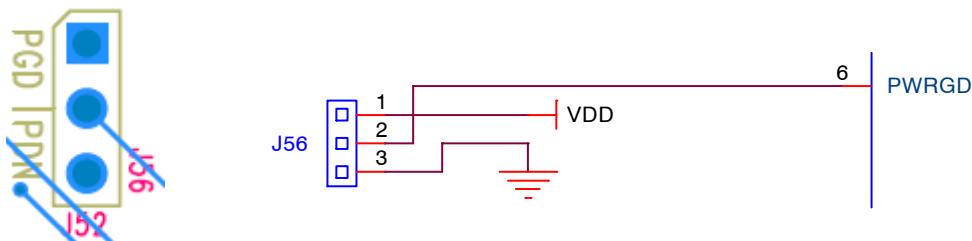

Figure 8. PWRGD/PWRDN# Pin Schematic/PCB Configuration
4. Ensure the PWRGD/PWRDN# pin is in the Low state before power up (PWRDN#). There is a jumper on pin 6 to easily select between High and Low. See Figure 8.
NB3N1200KMNGEBV and NB3W1200LMNGEBV were designed with a flexible PCB layout configuration to measure the differential HCSL (1200K) or Push-Pull (1200L) outputs with a 50-ohm scope head or high-impedance FET probe. (See Output Layout in Figures 8 and 9)